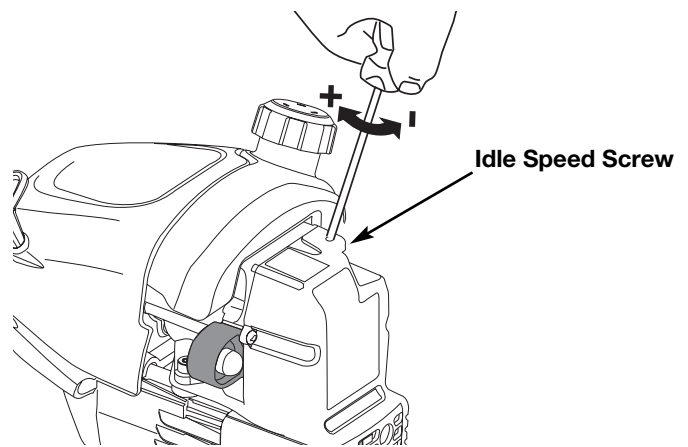

Fig. 31
The idle speed of the engine is adjustable through the air filter/muffler cover (Fig. 31).
2. Release the throttle trigger and let the engine idle. If the engine stops, insert a small phillips screwdriver into the hole in the air filter/muffler cover (Fig. 31). Turn the idle speed screw in, **clockwise**, 1/8 of a turn at a time (as needed) until the engine idles smoothly.